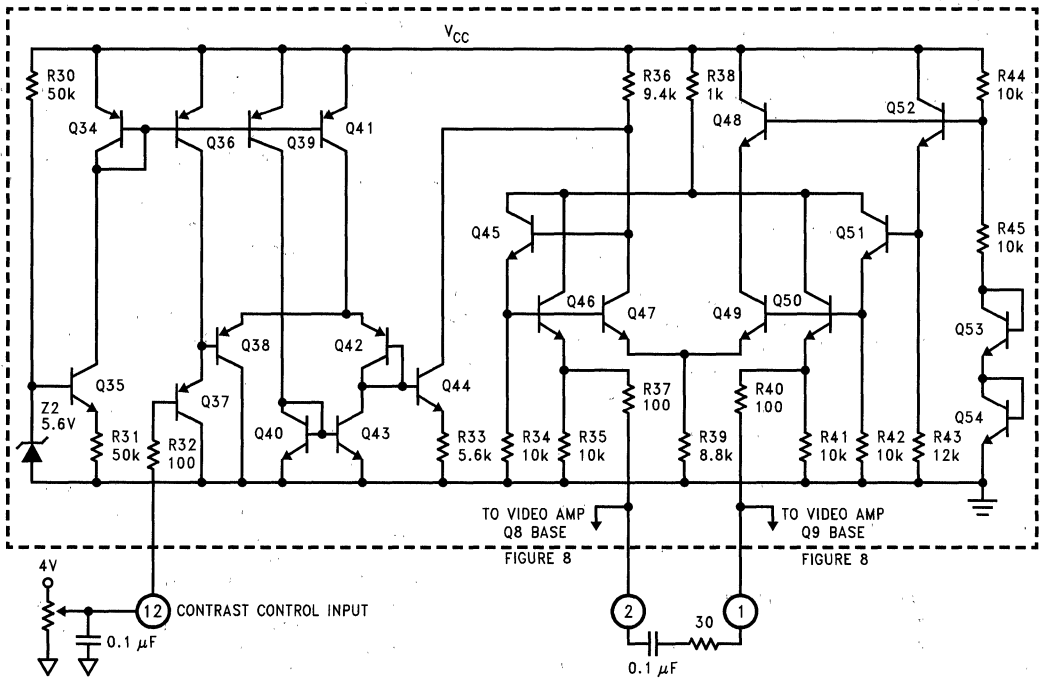
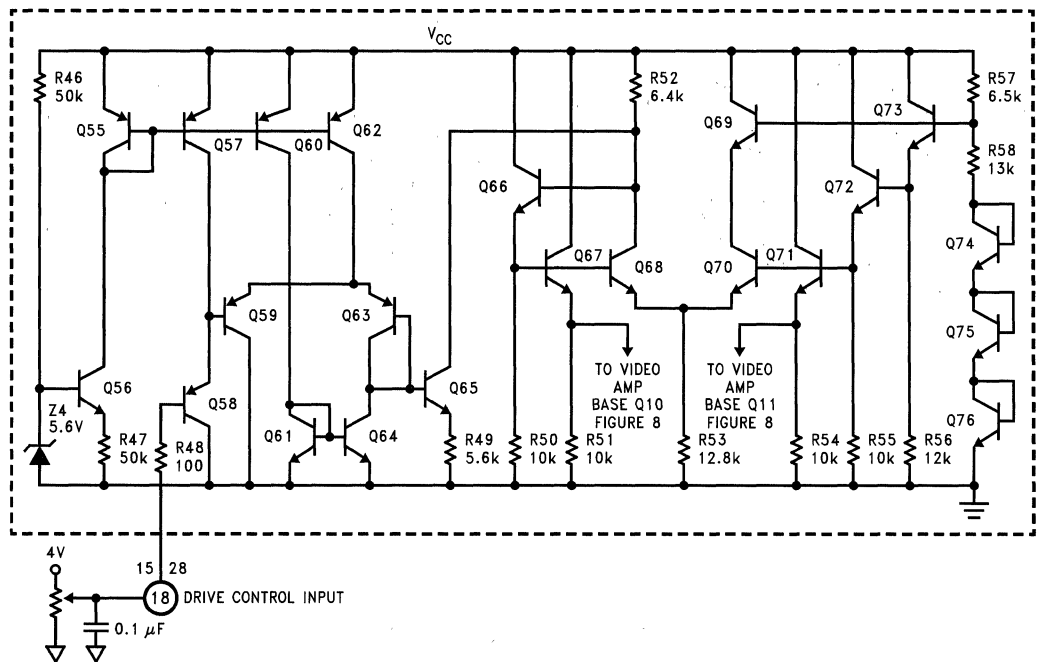

FIGURE 9. Simplified Schematic of LM1208/LM1209 Contrast Control
FIGURE 10. Simplified Schematic of LM1208/LM1209 Drive Control
*Figure 9* is a simplified schematic of the Contrast Control circuit. The output of this circuit is common to all three channels. A reference voltage is generated by Z2, Q34, Q35, R30, and R31. Q36, Q39, and Q41 are all current sources that are controlled by the reference voltage. The contrast signal has a 0V to 4V range with its input at pin 12. R32 is used for current limiting any voltage surge that may occur at pin 12. Note that the input stage (Q37, Q38, and Q42) are all PNP transistors. This configuration is necessary for operation down to near ground. At Q44 the input voltage is converted to a current by R33. The input stage will apply the same voltage across R33 as is applied at the input and with no temperature variations from the transistors. Q37 is connected to a current source (Q36) to keep a constant current flow through Q37 and a predictable diode voltage for the base-emitter of Q37. Q40 is connected as a diode and is biased by the current source Q39. The current through Q40 is mirrored into Q43, giving a current bias for Q42. Again this is done to give a predictable diode voltage for Q42. Q41 is a current source for both Q38 and Q42. With the current through Q42 already established, the rest of the current from Q41 flows through Q38. As one can see the input voltage is accurately reflected across R33 with no temperature coefficients from the input stage of the contrast control circuit.
*Figure 10* is a simplified schematic of the Drive Control circuit. Each channel has its own drive control circuit. This circuit is almost identical to *Figure 9*, the contrast control circuit. It will be easier to cover the differences between the two circuits instead of going through virtually the same circuit description. Note that the input stage is **exactly** the same. The generation of the reference voltage at the right hand side of *Figure 10* is slightly different than the circuit in *Figure 9*. In the drive control circuit the reference voltage at the base of Q72 is to be  $\frac{2}{3}V_{CC}$ . In the contrast control circuit the reference voltage at the base of Q51 was to be  $\frac{1}{2}V_{CC}$ . To generate the  $\frac{2}{3}V_{CC}$  R57 and R58 form a 2 to 1 voltage divider. With the two to one ratio it is now necessary to have three transistors connected as diodes, which are Q74, Q75, and Q76. Q73 is the buffer for this voltage divider and its emitter is exactly  $\frac{2}{3}V_{CC}$  with temperature compensation. R52 and R53 also differ from their corresponding resistors in *Figure 9*, R36 and R39. The value difference is so the base of Q66 is also at  $\frac{2}{3}V_{CC}$  when the input drive voltage is at 2V. R38 in *Figure 9* was needed for current limiting at the output pins. Since each channel has its own drive control circuit no filtering is required, eliminating the need for external pins. With no external pins no current limiting is necessary, thus the 1k resistor is not used in the drive control circuit.